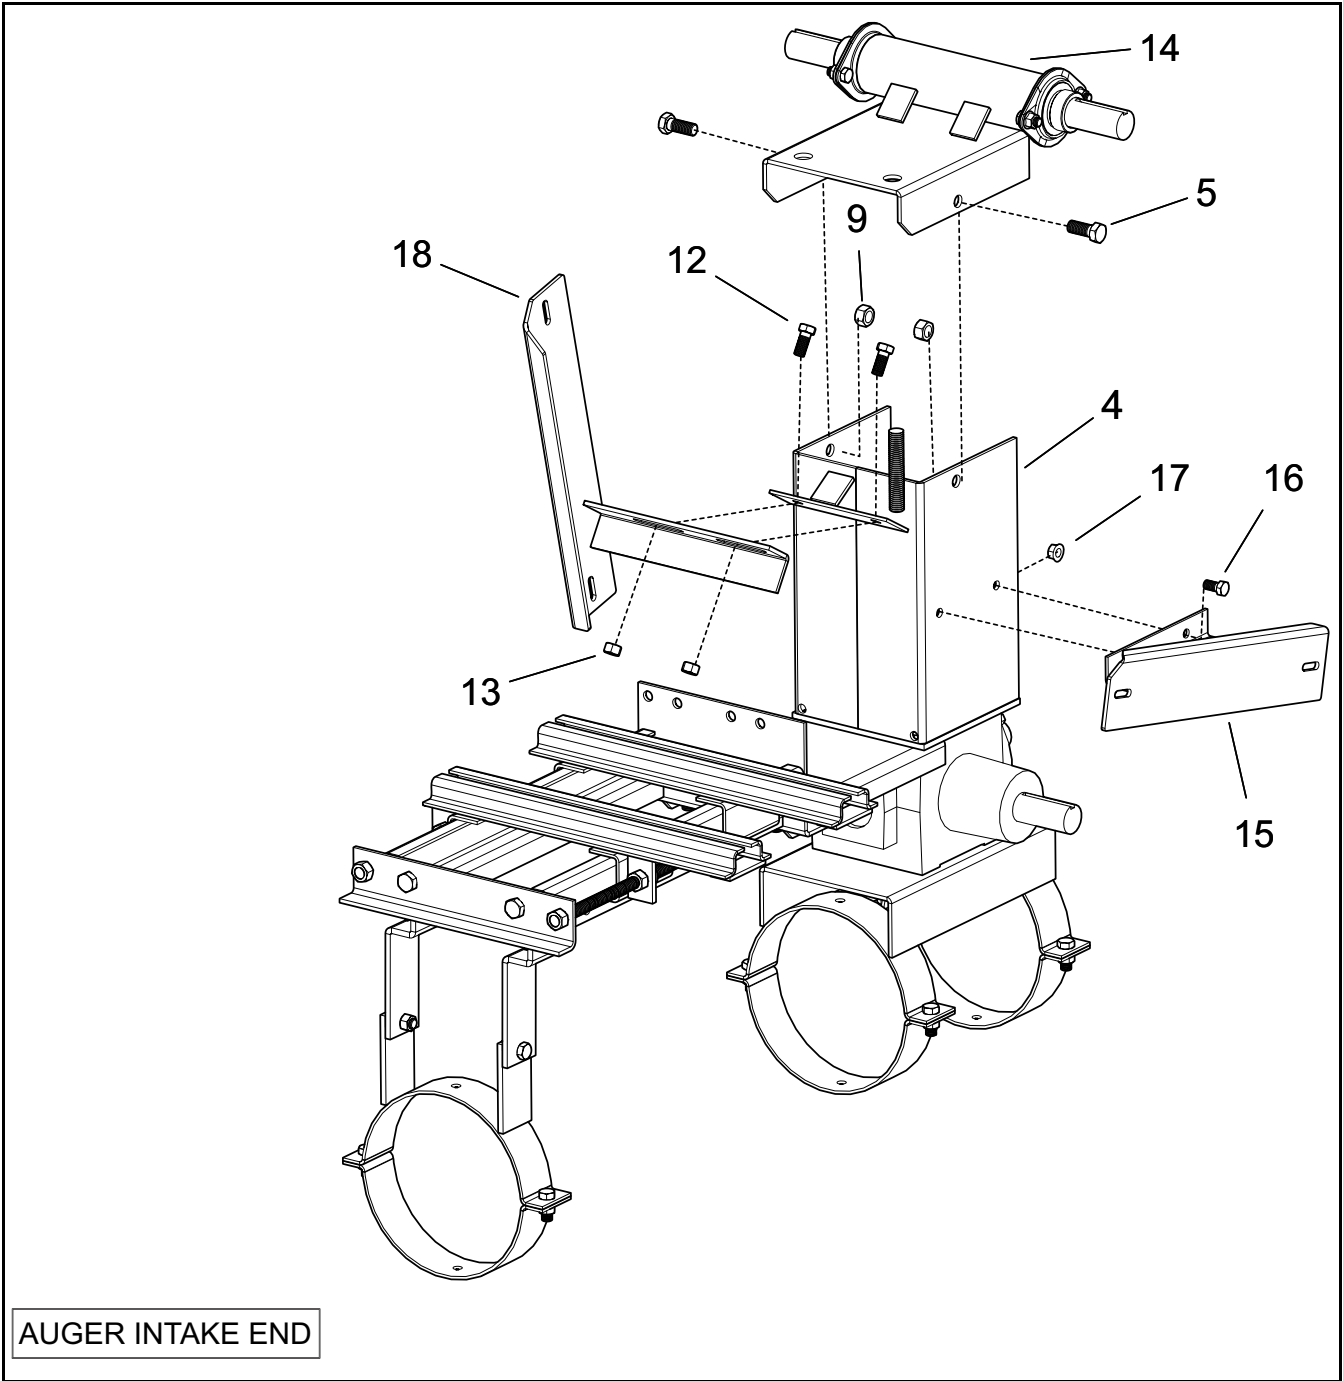

Figure 2 Installing Jackshaft and Pulley Guard Brackets
5. Attach the jackshaft assembly (14) to the jackshaft tower (4) using two 1/2" x 1-1/4" bolts (5) and 1/2" locknuts (9) as shown in Figure 2.
6. Install the right-hand pulley guard bracket (15) to right side of the jackshaft tower (4) using two 3/8" x 3/4" bolts (16) and 3/8" whiz nuts (17).
7. Install the left-hand pulley guard bracket (18) to end of the jackshaft tower (4) using two 7/16" x 1" bolts (12) and 7/16" locknuts (13).